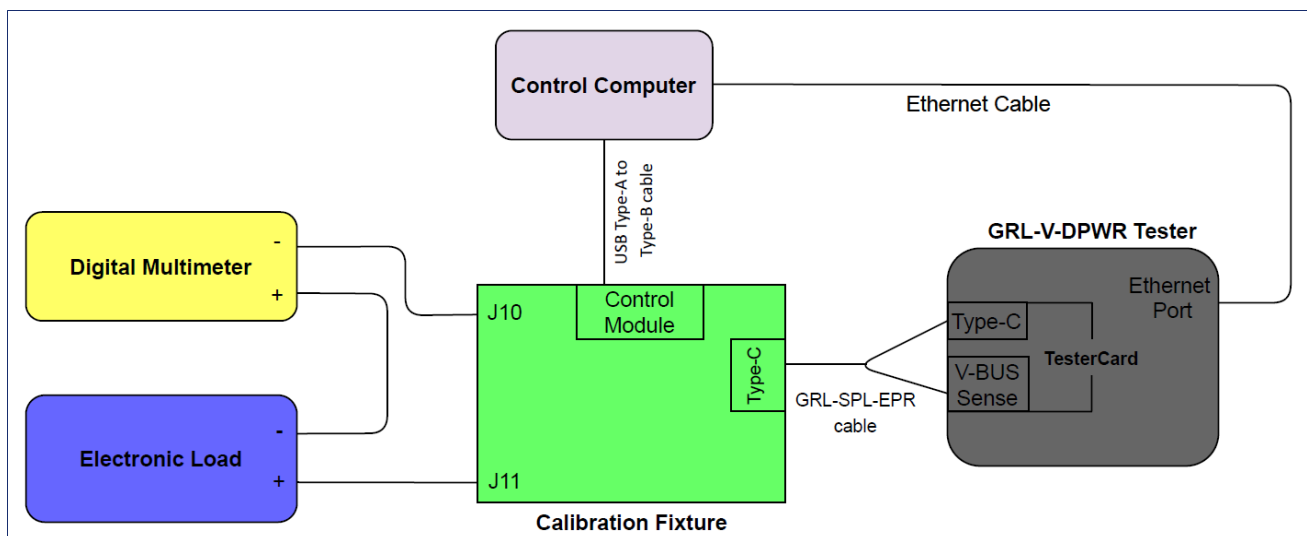

Figure 8.Connection Setup for GRL-V-DPWR Manual Source Port Verification for Current Measurements
This section describes the connection diagram to set up the equipment and fixture for manual source port verification for current measurements. Set up the hardware connection as shown in Figure 8 below.
1. Set up the hardware connection as shown in Figure 8.